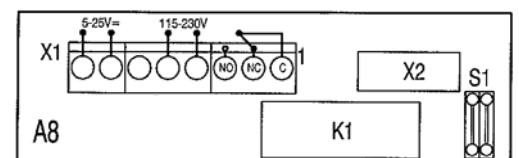

fig 14
- Connect the communication signal wires up to the vending circuit on to terminal strip **X1**, according to the instructions in the previous section (**fig. 14**). Close the circuit box.